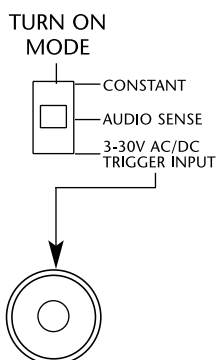

Figure 10 - Turn-On Mode.
Automating the turn-on of your SI-1260 is one of the easiest steps when installing it in a distributed system. However, do not plug the main power cord into the switched AC outlet of your preamplifier or receiver. The high power design of the SI-1260 requires large amounts of current from its AC power source. Additionally, it is always recommended to activate the system preamplifier/receiver before turning on your SI-1260 in order to prevent system "turn-on thumps". In order to address these important needs, the SI-1260 has three special turn-on modes that let you turn the amplifier on only when it is needed. These three options are accessed by the Turn-On Mode selector switch (see Figure 10).
The SI-1260 has three (3) turn-on modes. Select the desired mode by sliding the mode switch to the proper position. See Installation Considerations on page 14 and **Figure 10** for more information about each of the turn-on modes.